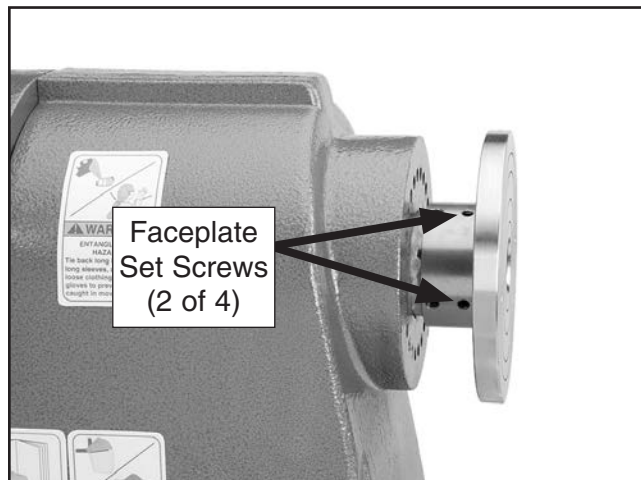

Figure 21. Headstock faceplate set screw.
5. Tighten the four faceplate or handwheel set screws just behind the faceplate to secure it to the spindle (see **Figure 21**).